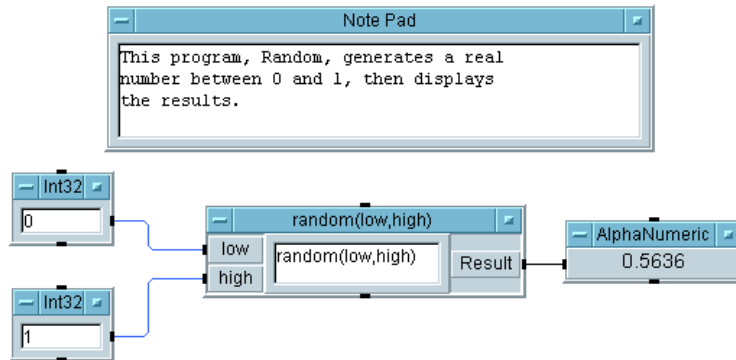

Figure 2-32. The Random Program
6. Click the **Run** button on the tool bar, and you will see a random number displayed as shown in Figure 2-32.